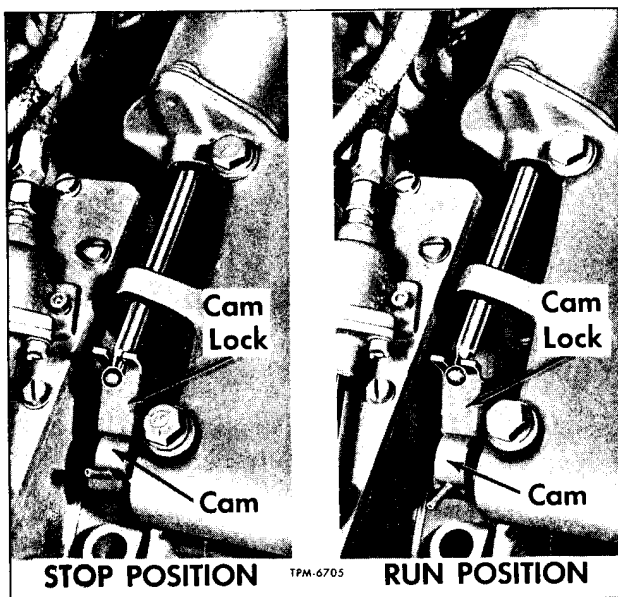

Figure 3—Emergency Stop Mechanism
Emergency stop solenoid assembly (figs. 3 and 4) is installed at engine blower housing and releases a choke valve to shut off air and stop engine in case engine cannot be stopped by normal means.
housing. Attach wire to terminal (1). Figure 3 shows the solenoid and mechanism installed.
NOTE: Cam (fig. 3) must be set in "run position" before engine can be started.